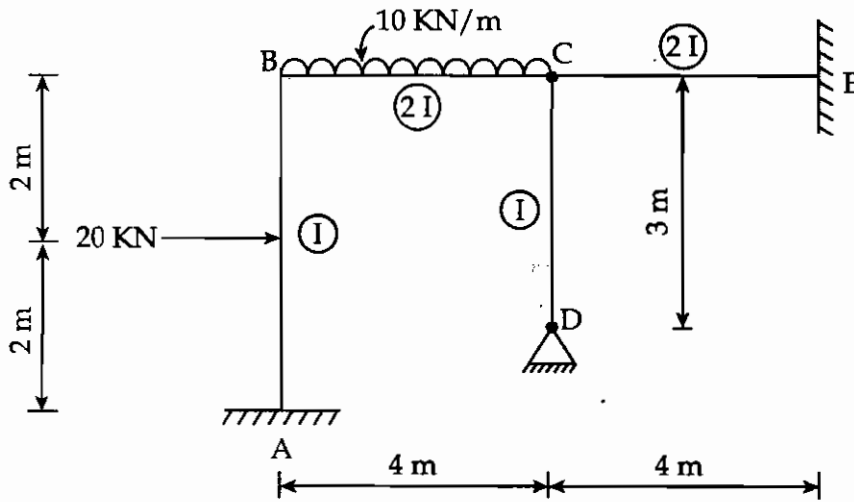

Figure 7
- (c) Analyse the loaded frame shown in Figure 7, by moment distribution method and draw the bending moment diagram. 10